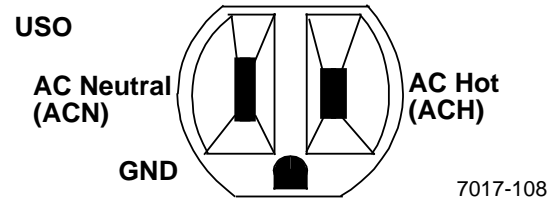

Figure 2. USO Wall Outlet
- b. **USO:** Measure the AC voltage between AC Hot and Neutral. Meter = 107 to 127 VAC (Figure 2).
- c. **USO:** Measure the AC voltage between the AC Neutral and GND. Meter = less than 3 VAC (Figure 2).